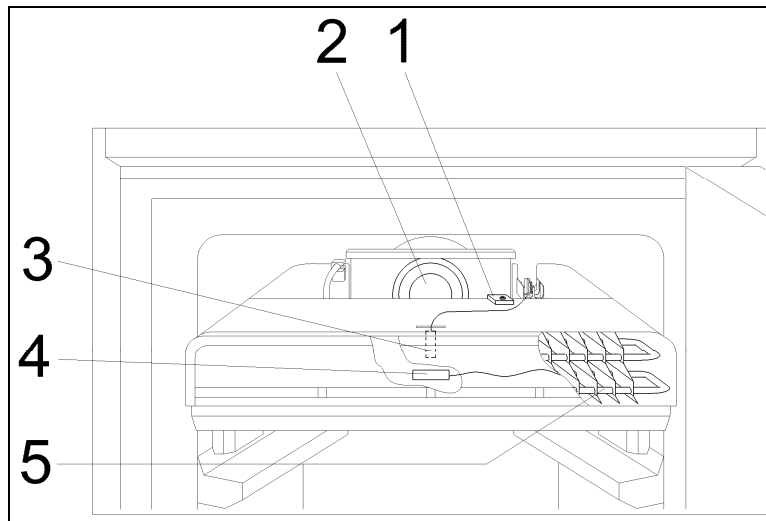

Figure 010-17: Evaporator and Surrounding Components
2. Remove the NTC from the evaporator, Figure 010-17, Item 3.